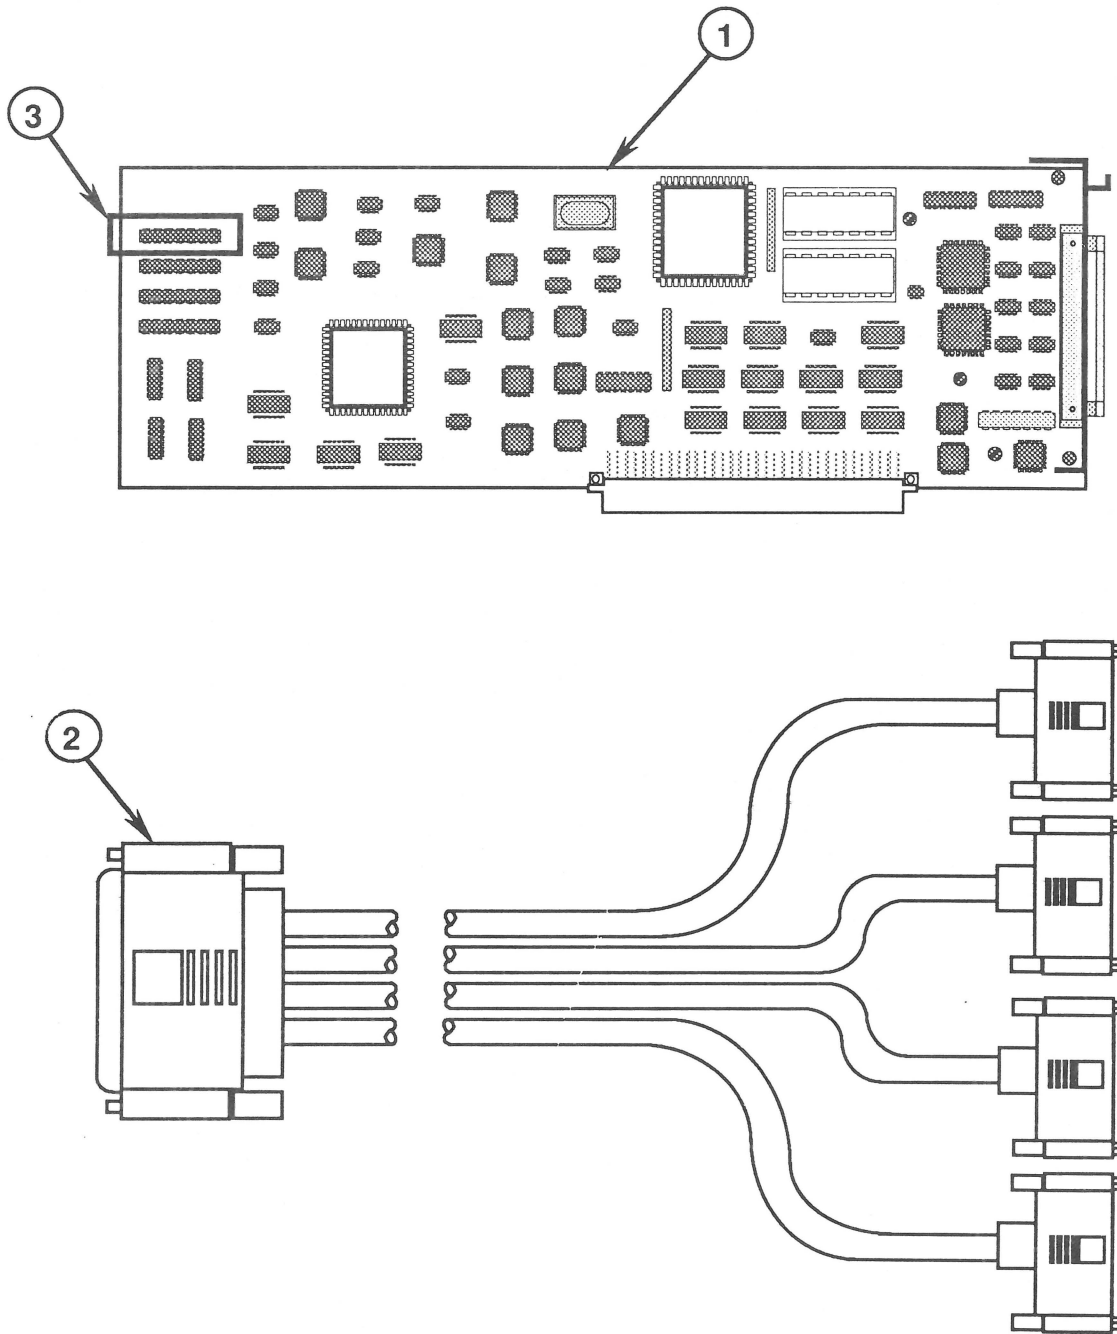

FIGURE 3
- IPL.5 Apple Serial NB Card (Figure 3)
□ **APPLE SERIAL NB CARD (Figure 3)**